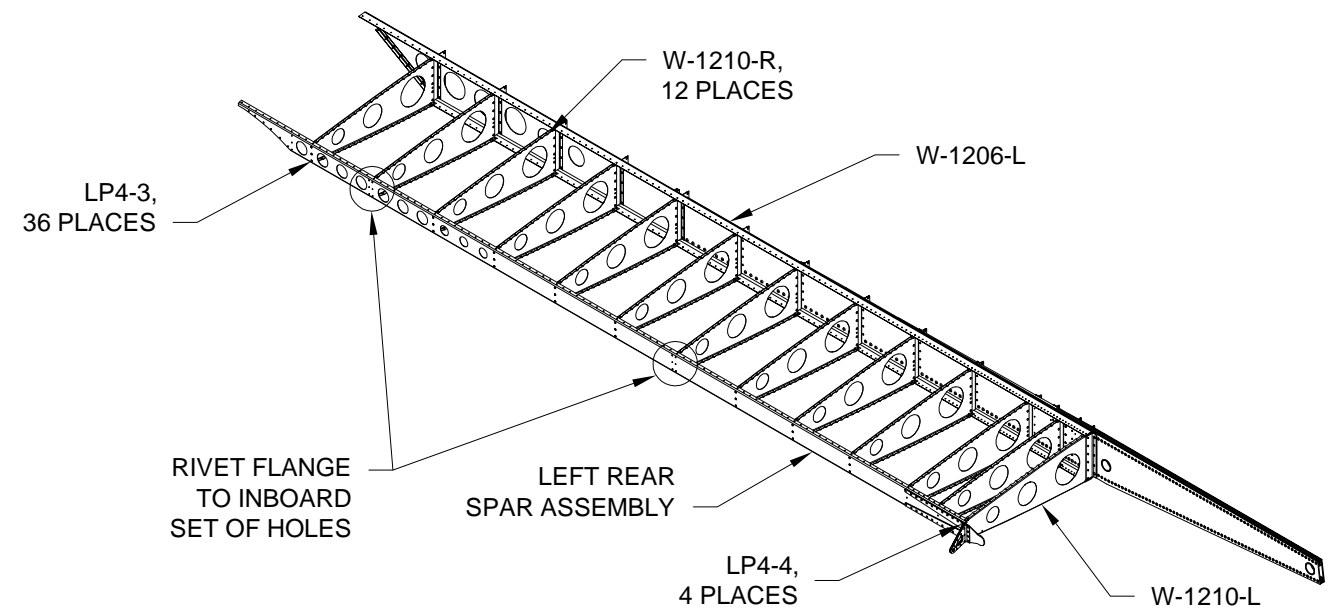

FIGURE 4: ATTACHING THE REAR SPAR
Step 9: Cleco then rivet the Left Rear Spar Assembly to the aft flanges of the W-1210 Main Ribs as shown in Figure 4.